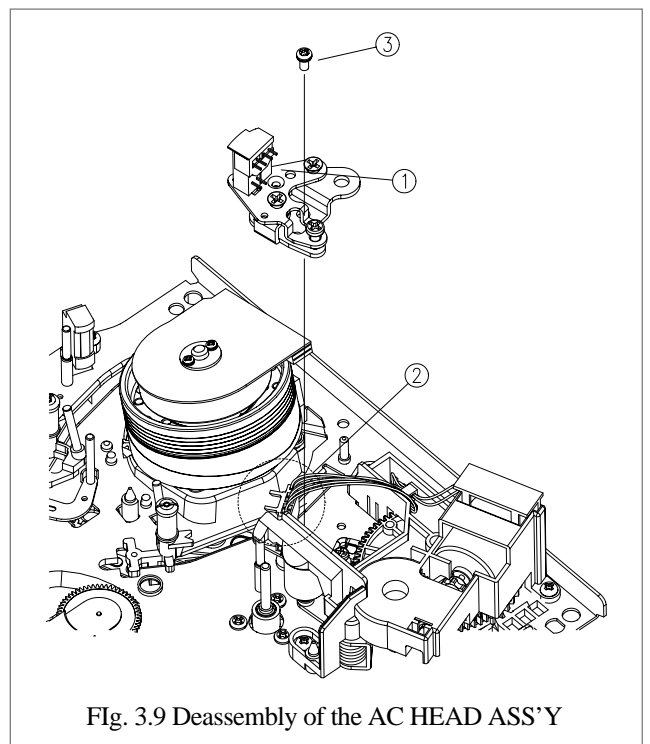

Fig. 3.9 Deassembly of the AC HEAD ASS'Y
5. Deassembly of the A/C HEAD ASS'Y (Fig. 3.9)
- Remove the CONNECTOR ② from the AC HEAD Ass'y, watch out that there is no damage in the HEAD connecting PIN.
- Separate the AC HEAD Ass'y ① after unscrewing the screw ③.